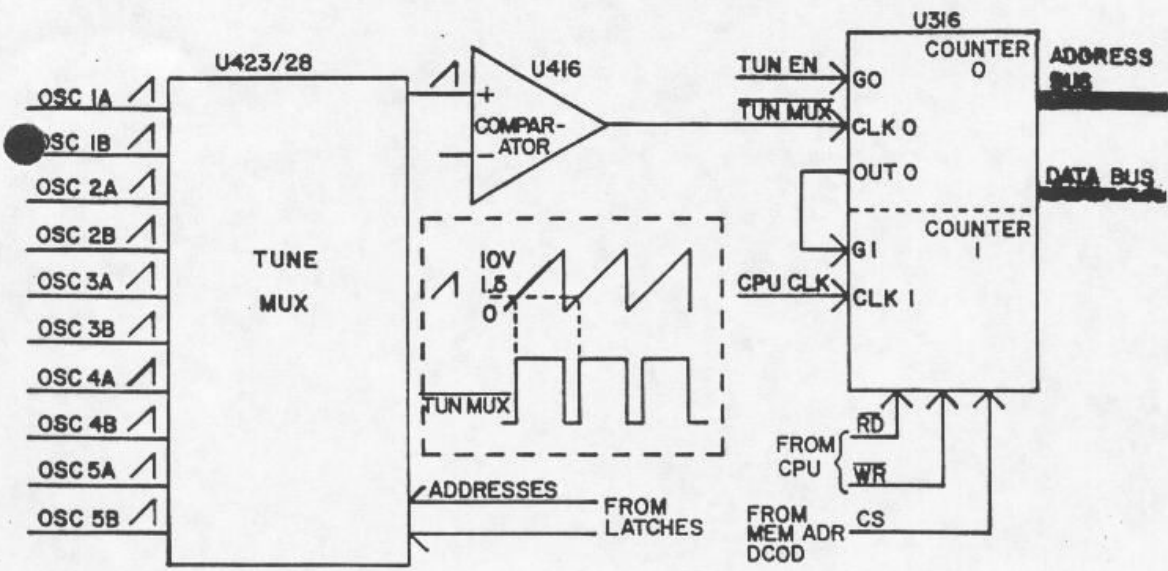

Figure 2-10
See Figure 2-10. The TUNE circuit consists of the TUNE MUX, a level comparator (LVL CPR), and two of a three-section programmable timer. The TUNE MUX sequentially connects each oscillator sawtooth output to the comparator, which converts them to pulses to clock the first timer. This counter is preset to count a specific number of oscillator cycles. OUT 0 goes low when it starts to count cycles, then high on the terminal count. The low on counter 1's gate (G) enables it to increment at the CPU clock rate — about 2.5 MHz. The high stops the counter. The resulting 16-bit number represents the period of counter 0's programmed number of cycles. The number, called REF CNT, is stored in memory.